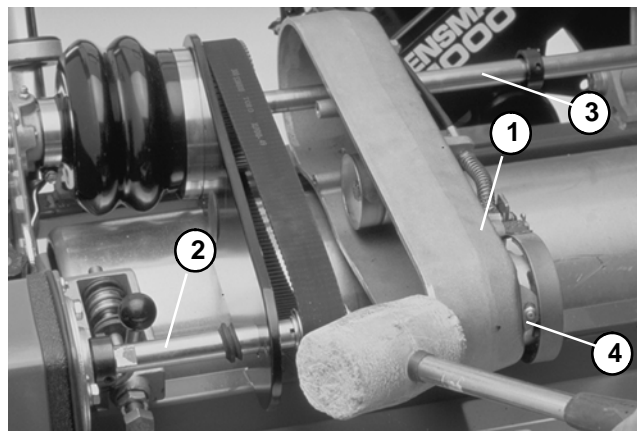

Figure 60
13. Use a rubber hammer to carefully tap the countershaft housing off the power shaft. Alternate the hammer between the long axle and the bearing housing end of the counter shaft housing to prevent damage to the bearings(Fig. 60).
4. Use a rubber hammer to carefully tap the counter-shaft housing onto the power shaft. Alternate the hammer between the long axle and the bearing housing end of the counter shaft housing to prevent damage to the bearings (Fig. 60).